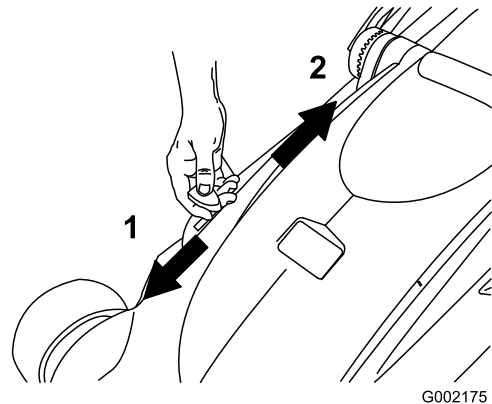

Figure 21
3. Move the recycling/bagging lever to bagging mode (Figure 21).
Note: To convert from bagging to recycling, move the recycling/bagging lever to recycling mode (Figure 21) and remove the grass box.